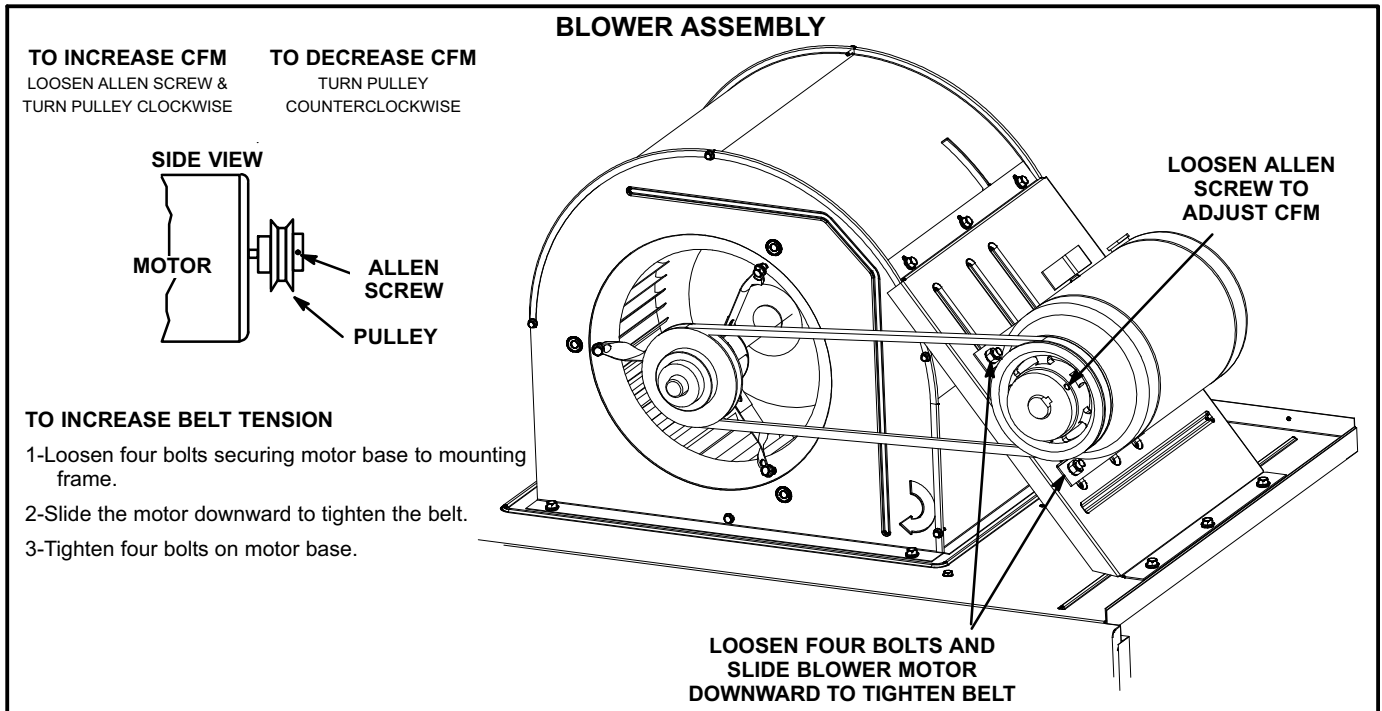

FIGURE 19
- 5- The blower RPM can be adjusted at the motor pulley. Loosen Allen screw and turn adjustable pulley clockwise to increase CFM. Turn counterclockwise to decrease CFM. See figure 19. Do not exceed minimum and maximum number of pulley turns as shown in table 3.
- 1- Loosen four bolts securing motor base to mounting frame. See figure 19.